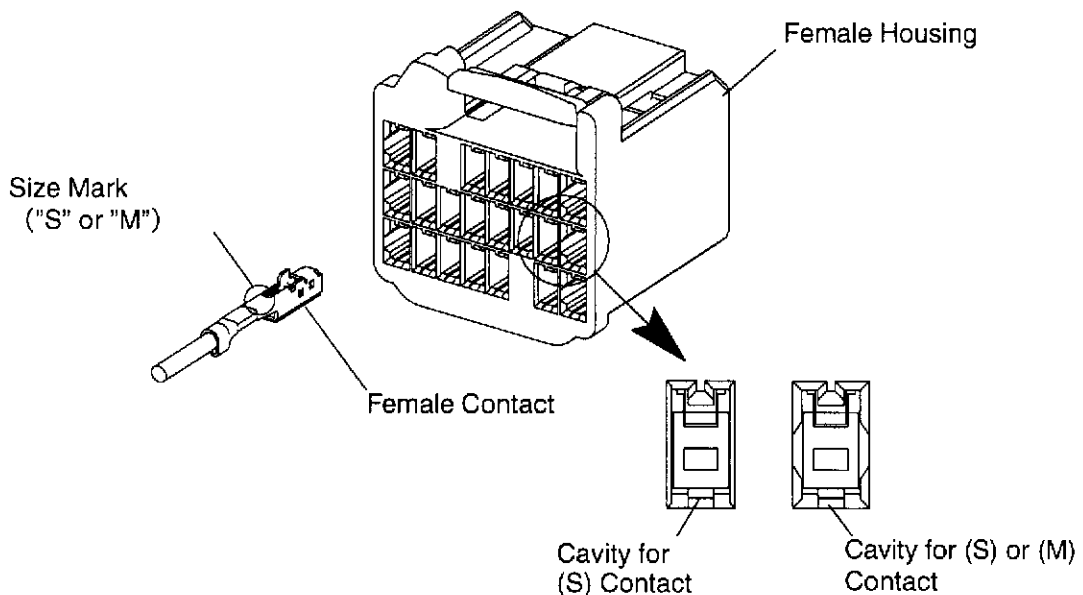

Fig.9
(3) Confirm the size mark on the contact (S or M). Fig.9. The cavity size (S or M) of the housing can be identified by the shape of cavities. Fig.9.